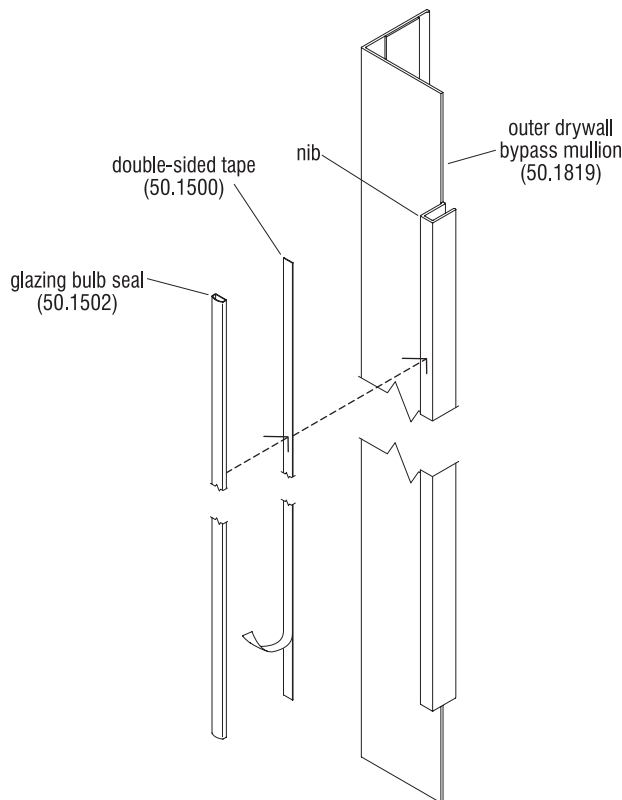

Figure 5
8. Use supplied 3M AP115 cleaner to clean the surface of the nib, of the notched outer drywall bypass mullion (50.1819). This must be done prior to applying double-sided tape in the next step (Figure 5).
9. Locate the roll of double-sided tape (50.1500). Beginning at the top of the outer drywall bypass mullion, carefully adhere the double-sided tape to the cleaned face of the nib, working down and pressing firmly. Cut the tape at the bottom of the nib (Figure 5).
10. With tape applied, dry fit the glazing bulb seal (50.1502) and cut to length. Clean the flat side of glazing bulb seal with 3M AP115 cleaner, then remove exposed release backing from installed tape and attach the glazing bulb seal to nib face (Figure 5).